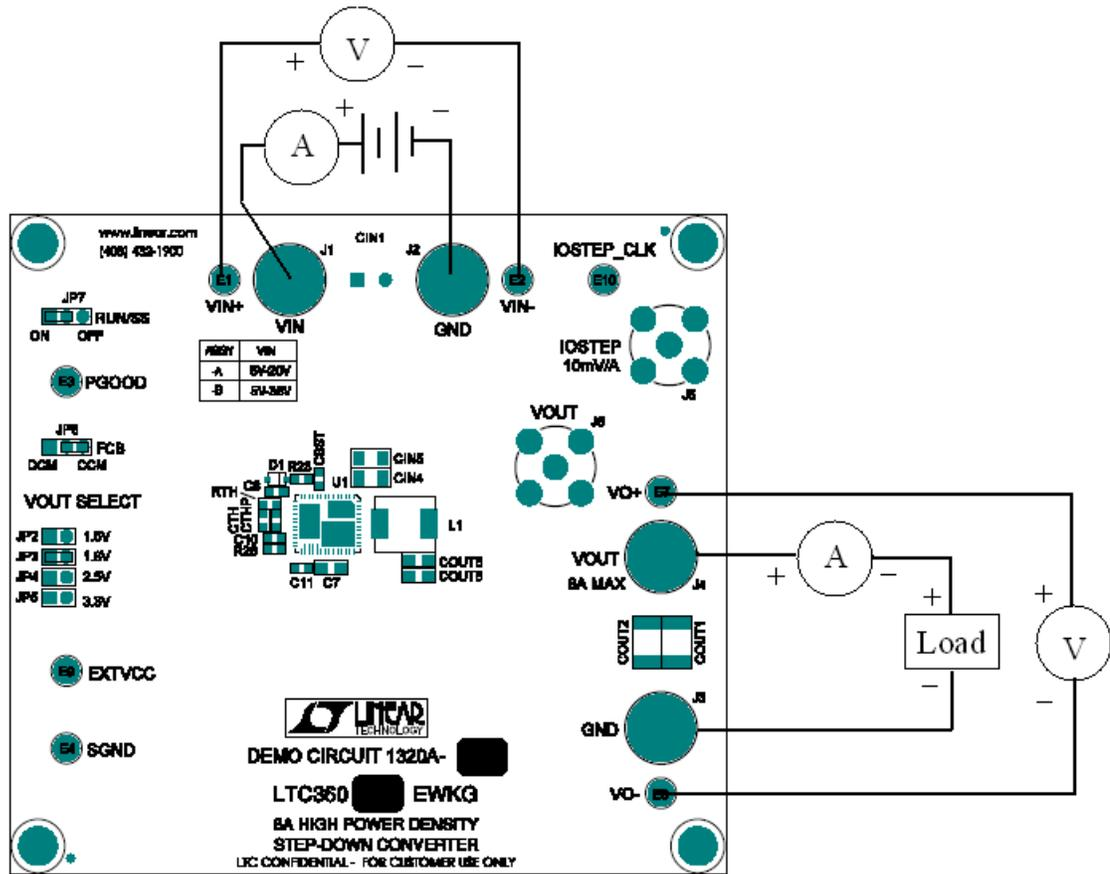

Figure 1. Proper Measurement Equipment Setup
Demonstration circuit 1320 is easy to set up to evaluate the performance of the LTC3608/9EWKG. Refer to **Figure 1 for proper measurement equipment setup** and follow the procedure below:
1. With power off, connect the input power supply to VIN and GND. Connect the load between VOUT1, VOUT2 and GND. Preset the load current at 0A (minimum). Refer to Figure 1 for correct test set up. The RUN/SS1 and RUN/SS2 jumpers should be at “on” position.